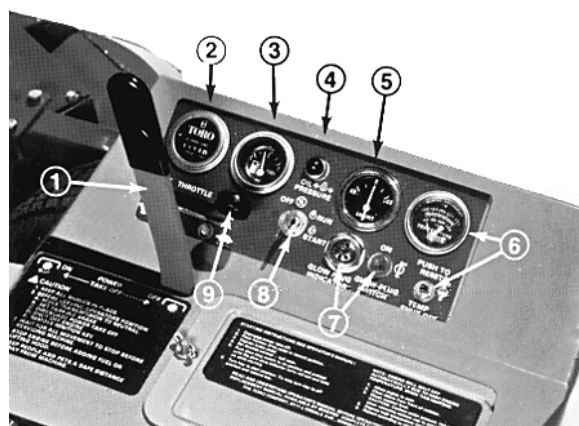

Figure 7
1. Ensure the parking brake is set, the PTO lever is in the OFF position (Fig. 7) and the lift lever is in the TRANSPORT or FLOAT position (Fig. 6). Remove your foot from the traction pedal and make sure it is in neutral.
2. Move the throttle control (Fig. 7) to the full FAST position.
4. Turn the key to START (Fig. 7). Release the key immediately when the engine starts and let it return to RUN. Move the throttle control to SLOW.